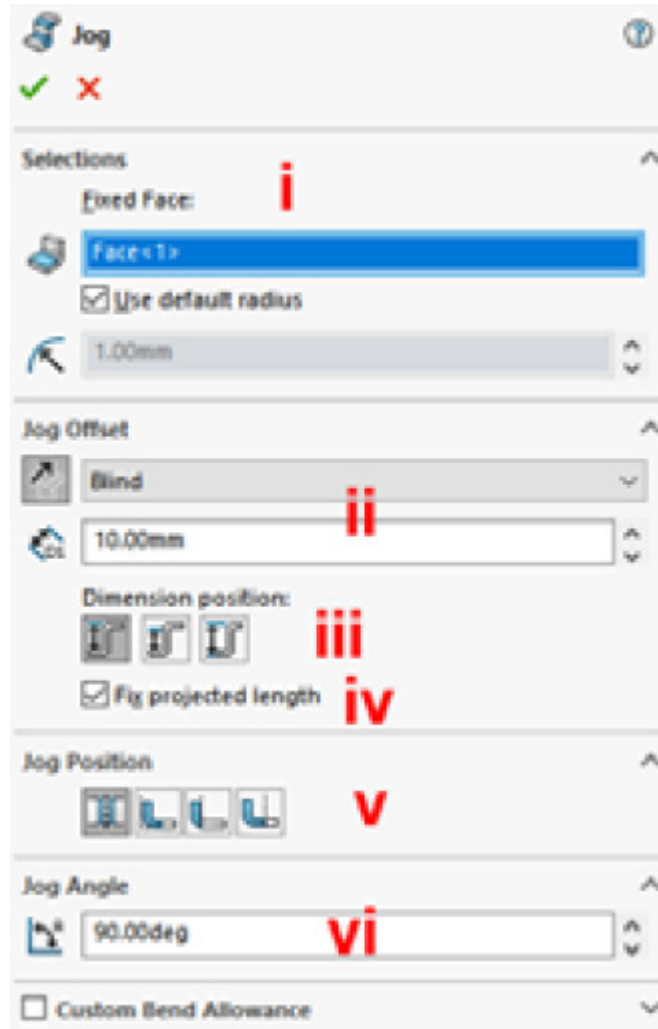

Figure 3.22: The Jog Property Manager
7. Set the **Jog Offset** property (labeled **i** in *Figure 3.22*). The direction can be flipped if required by pressing the **Reverse Direction** button. Set the offset to **10mm, Blind**:
8. **Offset Distance:** The actual height of the offset (labeled **ii** in *Figure 3.22*) depends on which of the following three options (labeled **iii** in *Figure 3.22*) is chosen:
9. The **Fix projected length** option (labeled **iv** in *Figure 3.22*) allows extra material to be added to the flange to compensate for the material that is taken up by the **Jog** section.
10. **Jog Position**: The actual **Jog** can be specified in a similar way to the **Sketched Bend** options (labeled **v** in *Figure 3.22*):